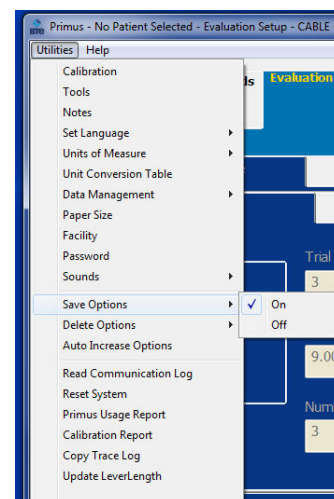

Figure 4k
- c. Click the “Utilities” menu in the menu bar at the top left of your screen (Figure 4k).